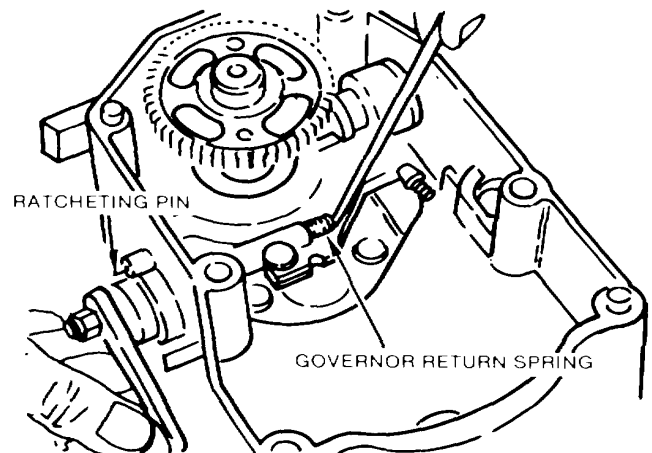

Figure A-45. Governor Control
i. Governor Control. Install a new o-ring on the speed control shaft. Place the speed control lever ratcheting pin in its hole in the gear cover. Lay the governor lever in the housing and slide the control shaft through the governor arm about 3, into the housing. Twist the lever downward towards the working surface until the slotted end of the speed control shaft lines up with the hook on the governor return spring. Make sure the spring is completely seated in the slotted end of the shaft. (Figure A-45.)